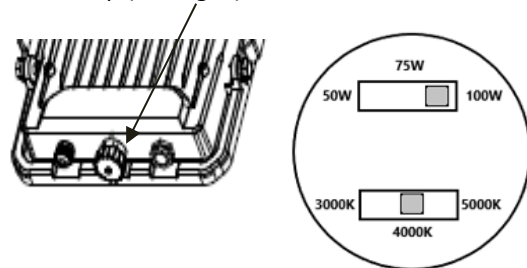

Fig. 1
6. Unscrew the cap on the base of the fitting to access the CCT3 and power change switches to select the desired power and colour output then securely reattach the screw cap (see Fig. 1)